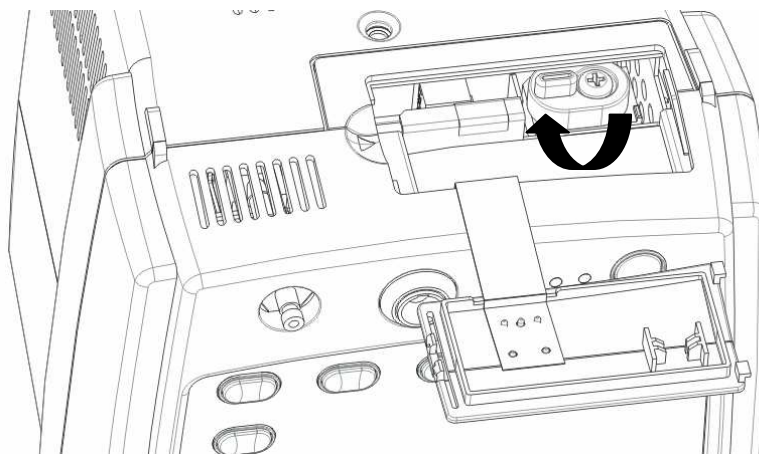

Figure 3-1
2. Flip the battery stopper to the left, as Figure 3-1 shows.